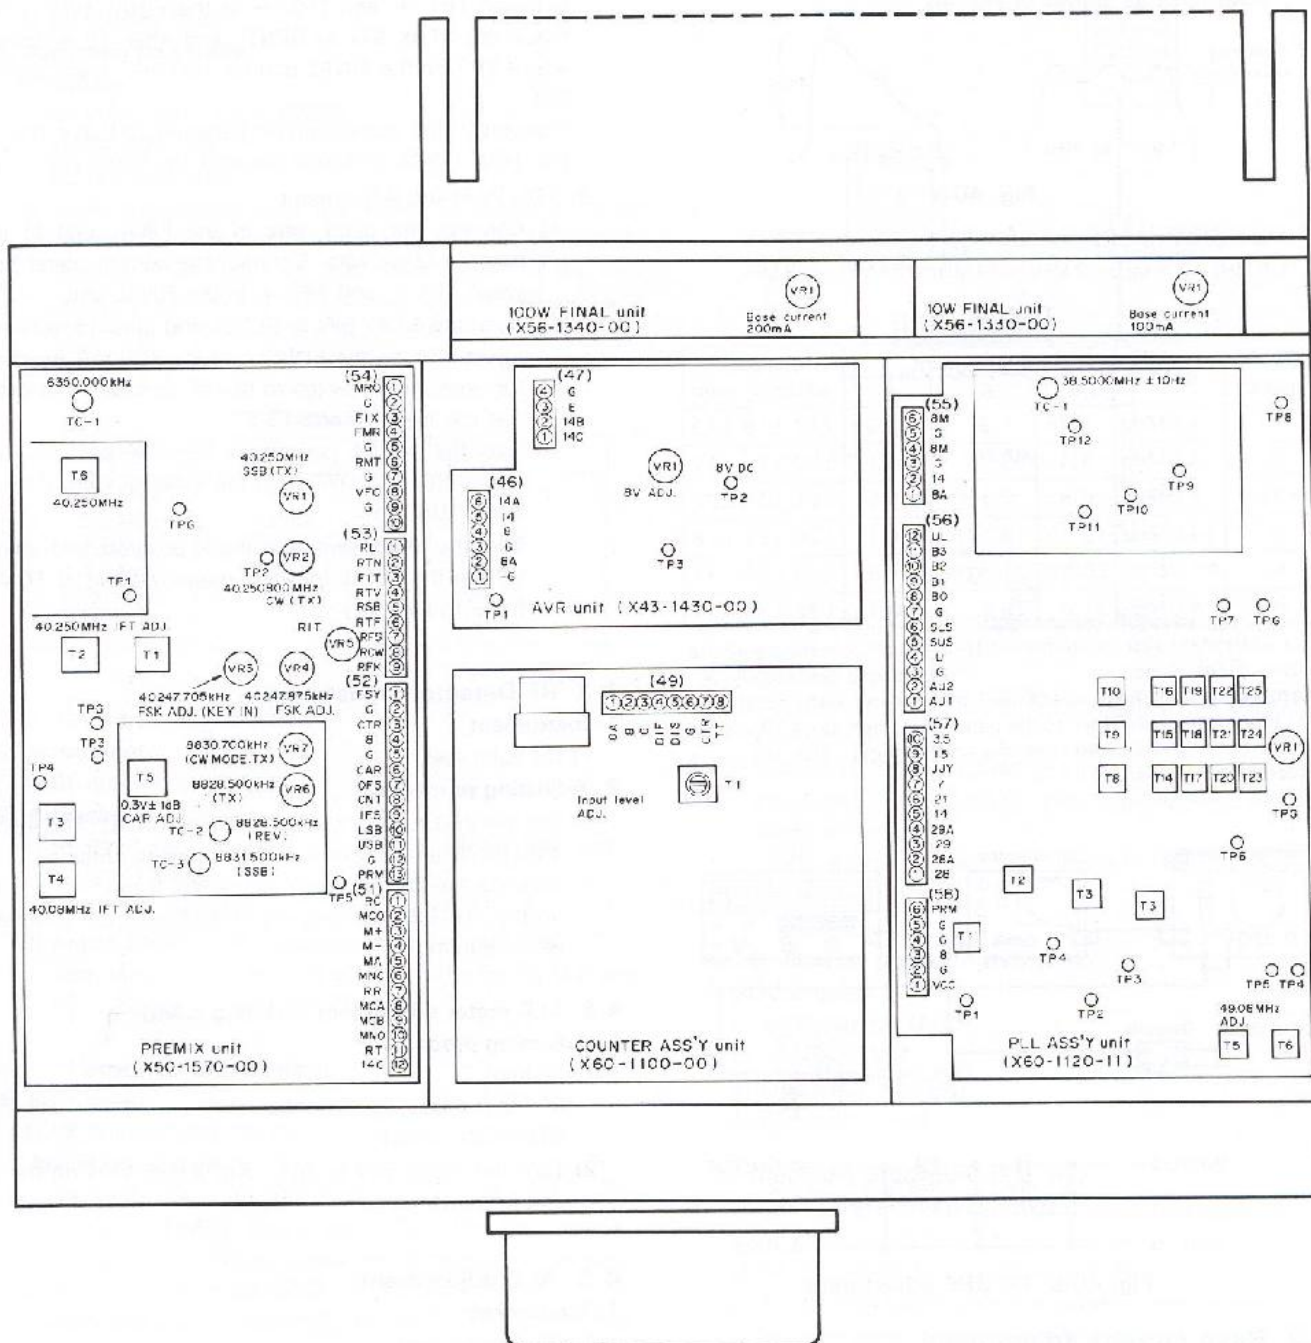

Fig. 37 TS-180 Top view
Connect the frequency counter to the 1P terminal (No. 54) on the PREMIX unit, and adjust frequency to 6350.000 kHz by TC 1. (refer to Fig. 37)
- 1) Connect the frequency counter between terminal TP-1, PLL unit (X60-1120-00/11/61) and the GND terminal. Connect the voltmeter between terminal TP-3 and the GND terminal. (refer to Fig. 37)
- 1) Connect the frequency counter to TP-8 on the PLL ASS'Y unit, on the 1.5 MHz BAND, adjust frequency to 38.500000 MHz ± 10 Hz by TC-1. (refer to Fig. 37)
Remove the jumper, and connect the current meter between TP1 + and TP2 - in the FINAL unit. Place the STBY SW to SEND, and after 15 seconds, adjust VR1 on the FINAL unit for 100 mA. (refer to Fig. 37).